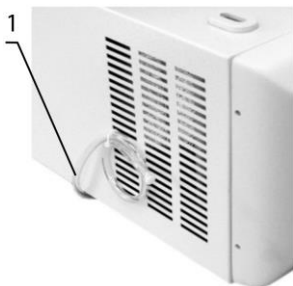

Figure 2. LMC-4200R, left side
- (**LMC-4200R**) Be sure to cork the drain hose (fig. 2/1) on the left side of the unit with a stopper to prevent the rising of chamber temperature.